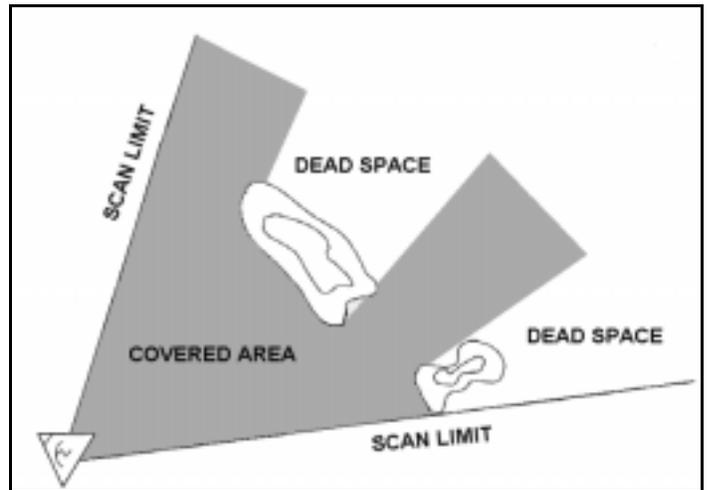

Fig. 4. Dead Space
Because the radar is a line-of-sight system, terrain will create dead space like that of any direct fire weapon system (Figure 4). The radar cannot look through or over hills, mountains, or intervisibility (IV) lines. Additionally, the radar waves are broken up by trees, particle smoke, rain, or fog. This leads to two main conclusions: